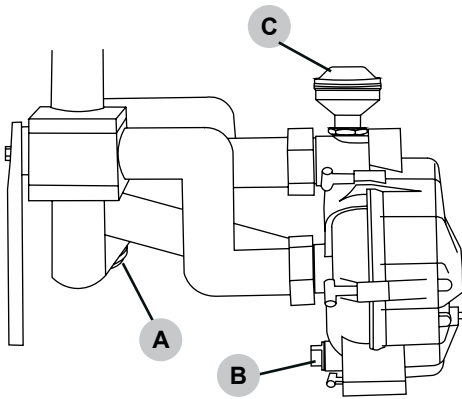

Fig. 12
2. Using a screw or nut driver, loosen the worm screw clamp (Fig. 12-A). Carefully remove it and the manifold plug from the tee flange.
3. Remove the drain plug on the bottom of the pump (Fig. 12 - B).
4. Remove the primer cover from the pump allowing air into the pump (Fig. 12 - C).